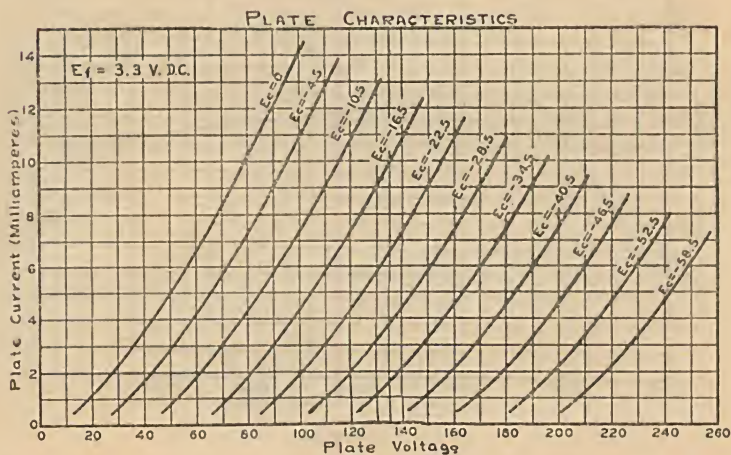

Fig. 8
**Plate Characteristics**—Fig. 8 shows the relation between the plate current and plate voltage at various bias voltages.